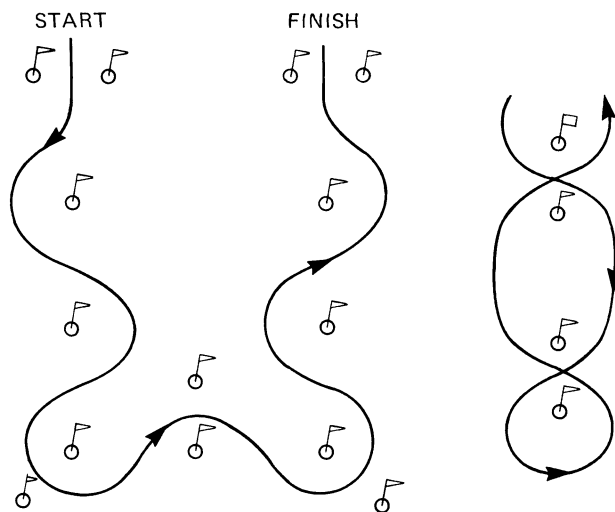

Fig. 2-17 Slalom and figure-8 drill patterns
**Slalom and Figure 8 Drills.** These exercises help your maneuvering skills in slow traffic or on difficult surfaces. The diagrams shown in Fig. 2-17 suggest some configurations for slalom and figure 8 routines.